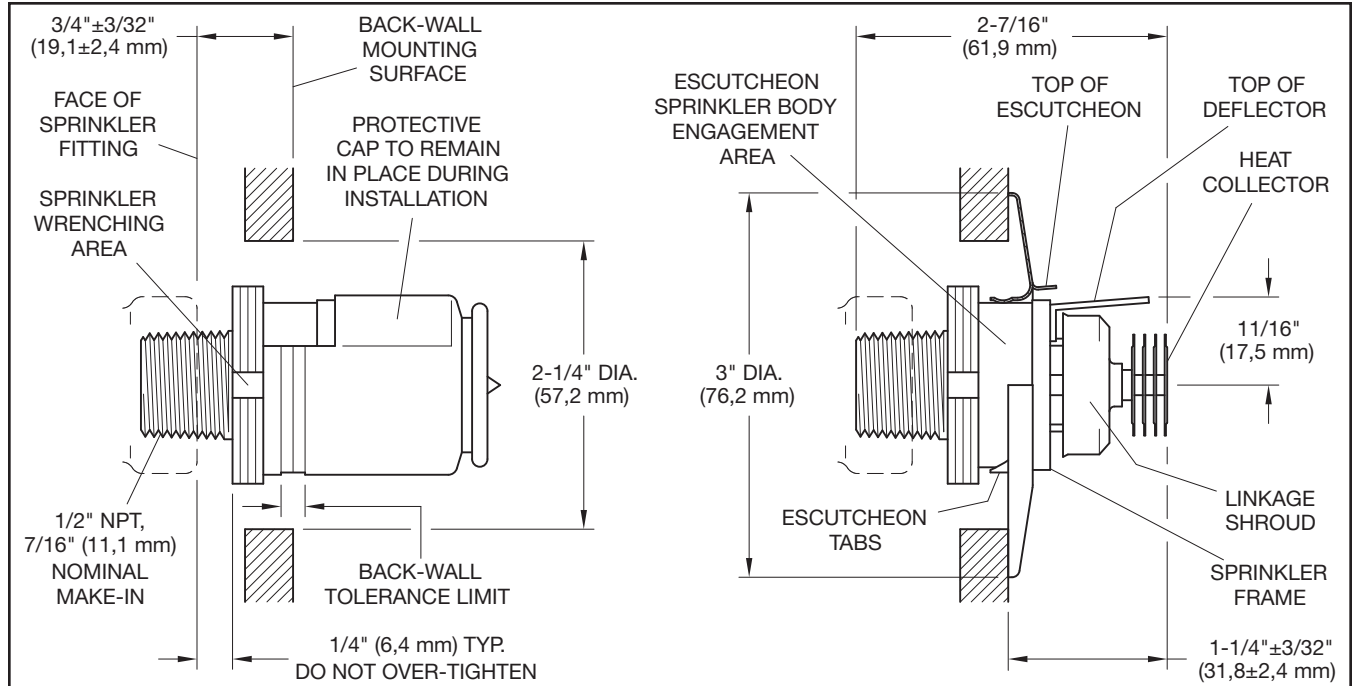

FIGURE 1A **FIGURE 1B**
Step 2. Install the sprinkler fitting so that the distance from the face of the fitting to the mounting surface will be nominally 3/4 inches (19,1 mm) as shown in Figure 1A.
Step 4. Wrench tighten the sprinkler using only the Sprinkler Socket or Wrench & Socket Combination (Ref. Figure 2). The wrench recess of the socket is to be applied to the sprinkler wrenching area (Ref. Figure 1A).
Step 5. Use the “backwall tolerance limit” indicator (Ref. Figure 1A) on the Protective Cap to check for proper installation depth. The finished wall surface must line up within the 3/16 inch (4,8 mm) range of the “backwall tolerance limit”. Figure 1A illustrates the finished wall surface at the mid-point of the “backwall tolerance limit”. Relocate the sprinkler fitting as necessary. If desired the Protective Cap may also be used to locate the center of the clearance hole. Apply chalk to the center point of the Cap and then gently touch the wall material against the center point of the Cap.